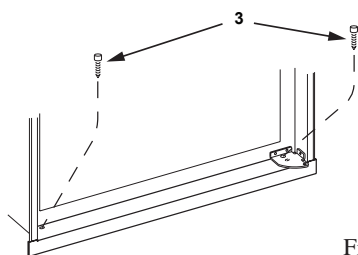

Fig. 13
- b) Once the lower front strip is slipped under the hinge, the part is possible to swing into place as shown in Fig. 13.
- c) Secure the refrigerator and the lower front strip with two screws: One screw through the hinge, and on the opposite side and then, one screw through the lower front strip, see Fig. 13.